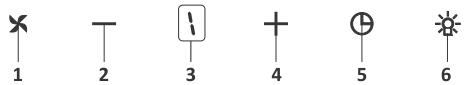

Fig. 16: 5 Spd Dig Button
1. ➔ Press this button to turn on the product.Fig. 16
2. ➔ Press this button to decrease the motor speed.Fig. 16
3. ➔ Dig display You can follow which speed the product is currently working on this display.Fig. 16
4. ➔ Press this button to increase the motor speed.Fig. 16
5. ➔ When timer button is pressed, a 15-minute timer function will be activated; display will give a signal once the timer starts and the motor will stop automatically after 15 minutes.Fig. 16
6. ➔ Press this button to turn on and off the lamp.Fig. 16